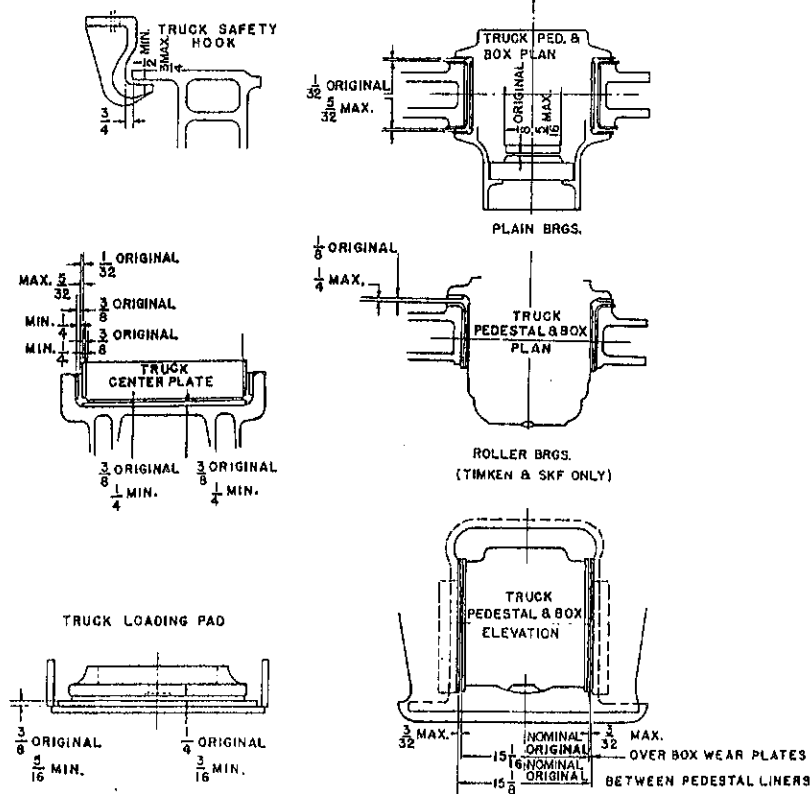

Fig. 14 - CLEARANCES AND WEAR LIMITS
1. The following items should be inspected and compared with Fig. 14 for clearance and wear limits.